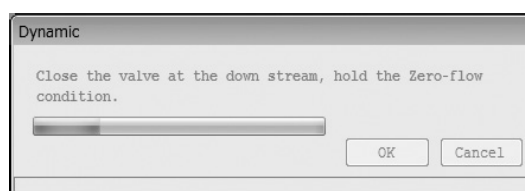

Fig.118
- ④ During the check, a progress bar will appear as shown in Fig. 118, allowing for the confirmation of the state of the check.